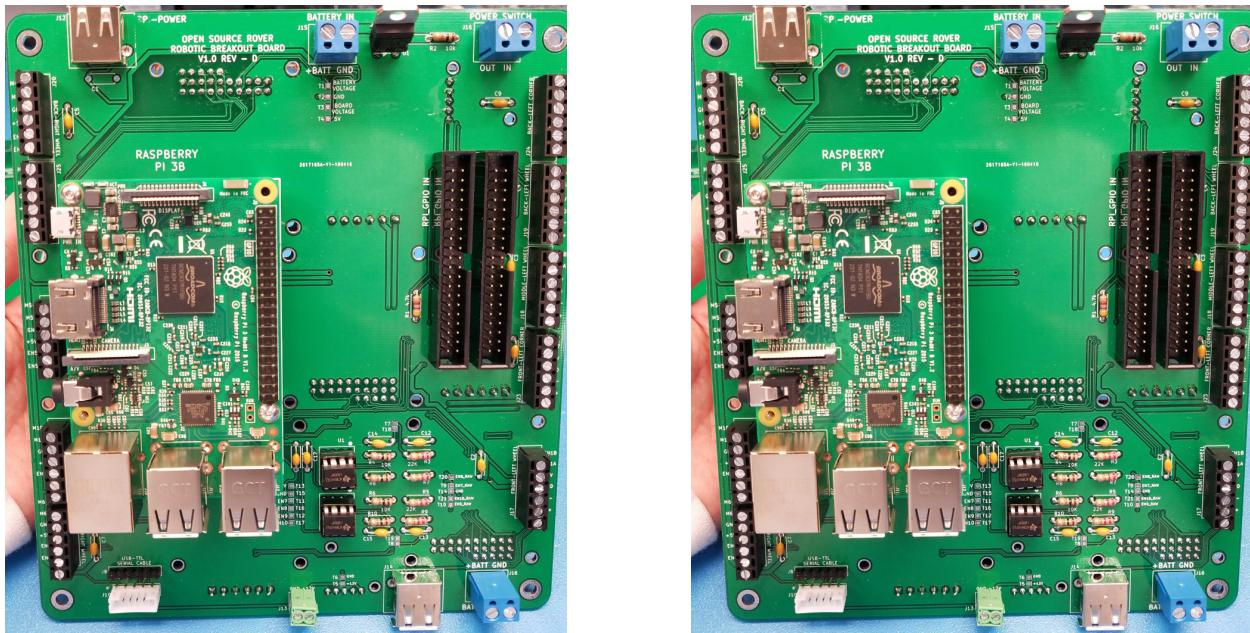

Figure 19: RPi Install
1. Insert the Raspberry Pi into the Board, making sure that the USB ports face downward on the board. Figure 19 show this orientation.